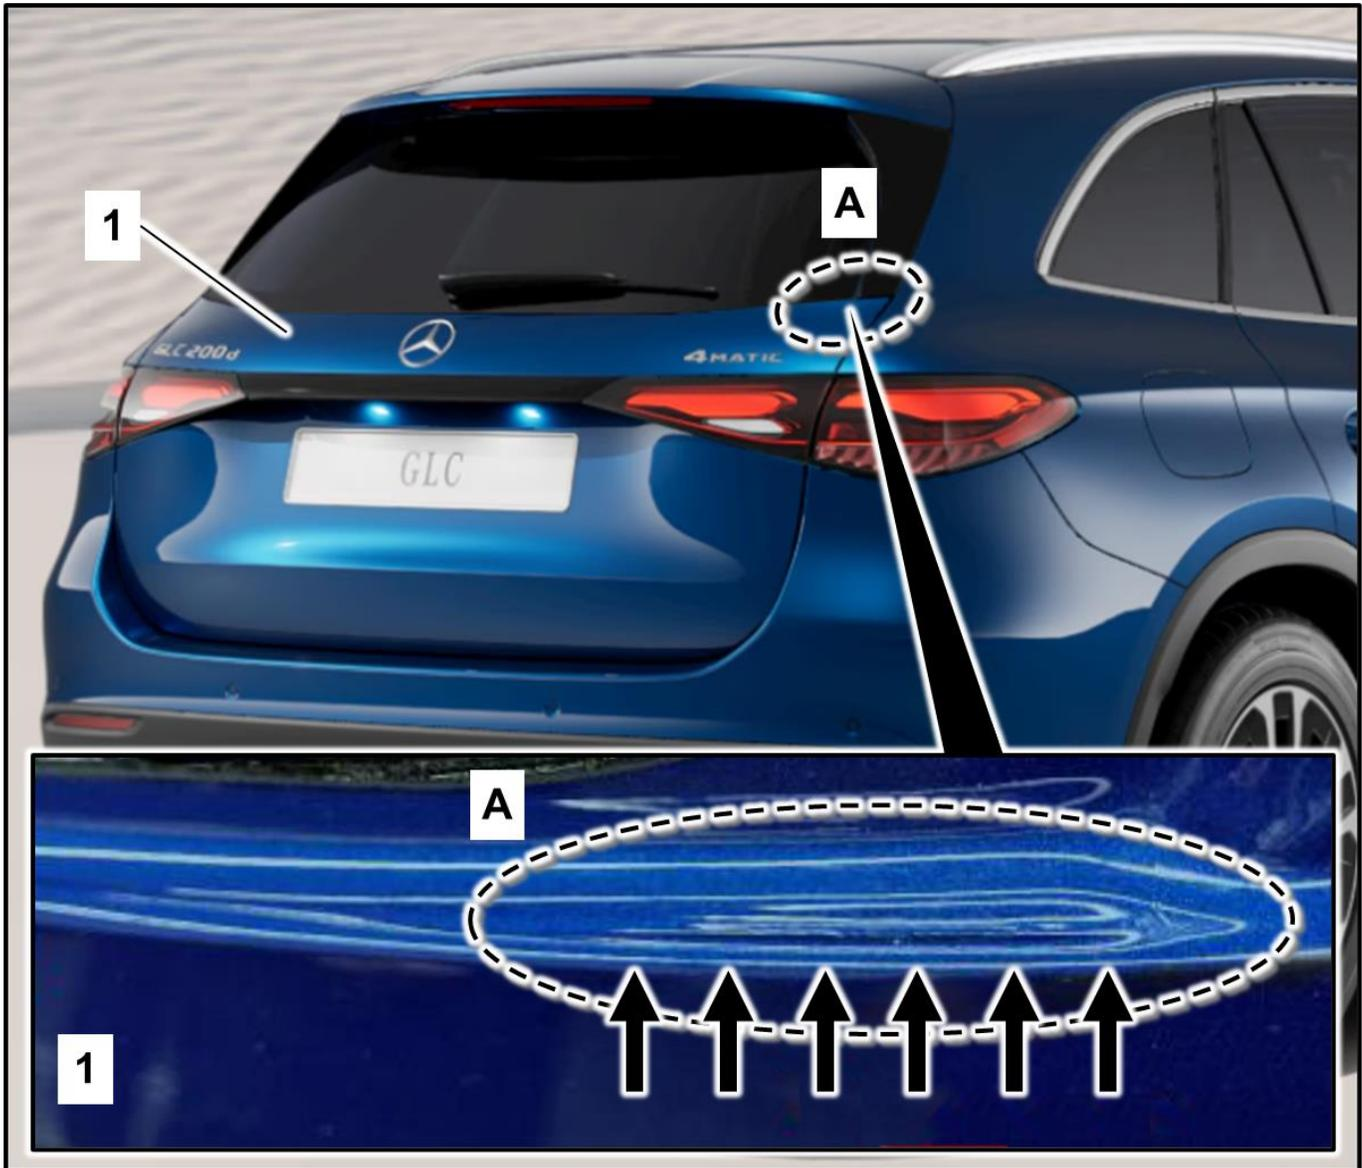

Figure 1
1. Check tailgate (Figure 1, 1) in area shown (Figure 1, A) for any stress marks or cracks.
- a. ***If any stress marks or cracks*** are visible on the tailgate (Figure 1, 1) in the area shown (Figure 1, A):
- b. ***If no stress marks or cracks*** are visible on the tailgate (Figure 1, 1) in the area shown (Figure 1, A):
1. Replace tailgate (Figure 1, 1).